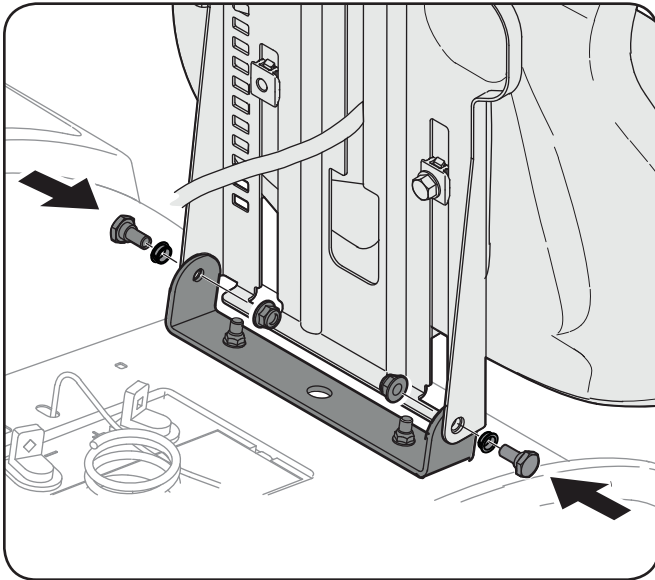

Figure 3-3
3. Rotate the seat into position and secure the seat into place with the previously removed shoulder screws, flange bearings and flange lock nuts. Be careful not to crimp or damage the wire harness while installing the seat. See Figure 3-3.